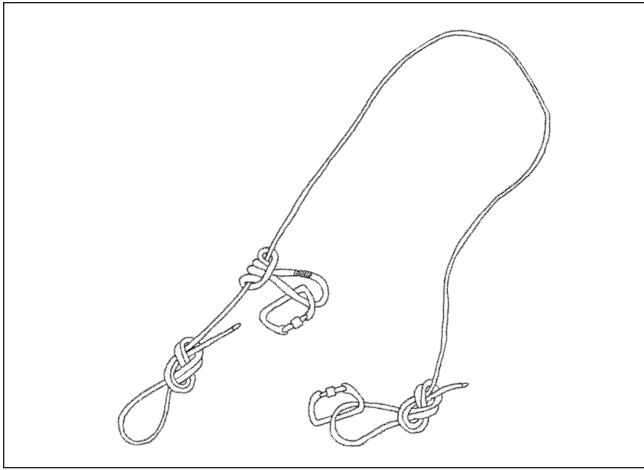

Figure 4d—Two-piece Prusik system.
1. See figure 4d for construction details. A 30-foot length of rope allows the climber to go less than 30 feet above the tie-in point, depending on the type of protection used to secure the safety line and whether knots or eye splices are used.